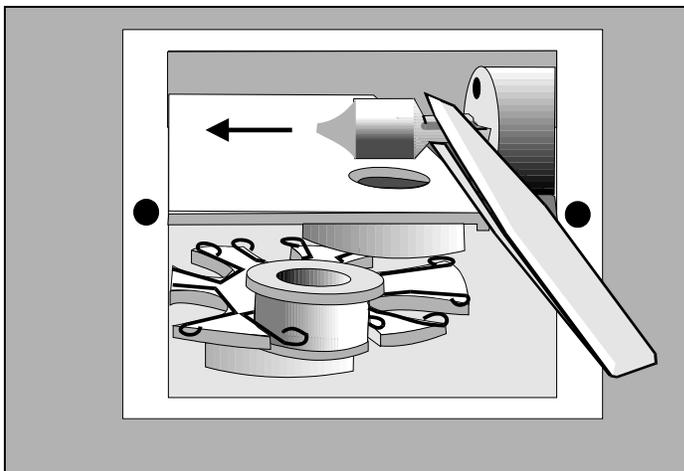

Figure 11-1 Removing the Lamp
- 4 Grasp the lamp tines of the new lamp with a pair of needle nose pliers and align the tines with the corresponding holes in the lamp socket as shown in Figure 11-1 and firmly insert the lamp into the socket